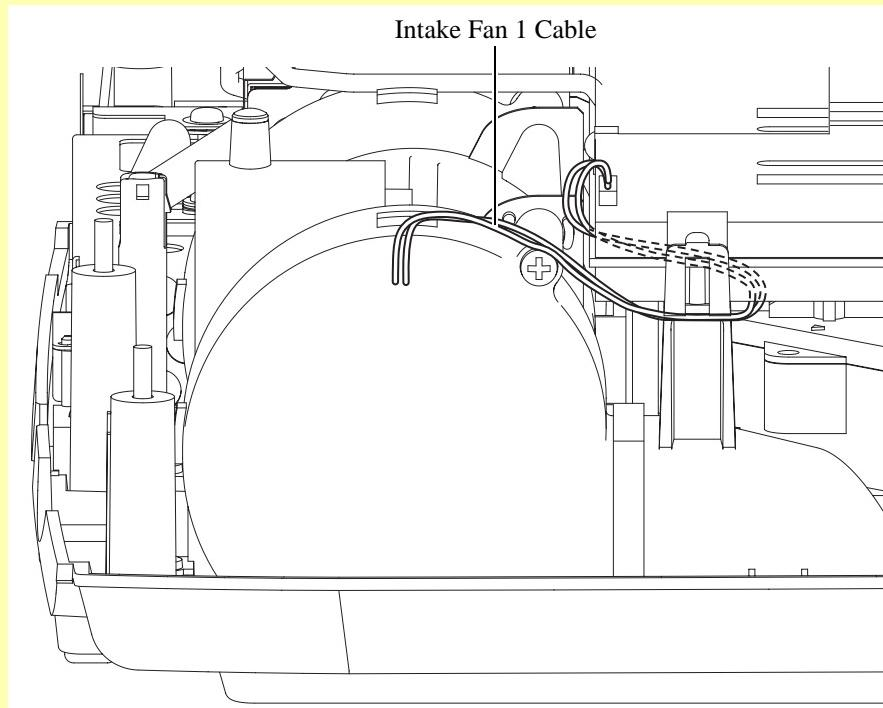

Figure 4-19.
- 3). Route the cable of the Intake Fan 1 as shown in Figure 4-19.